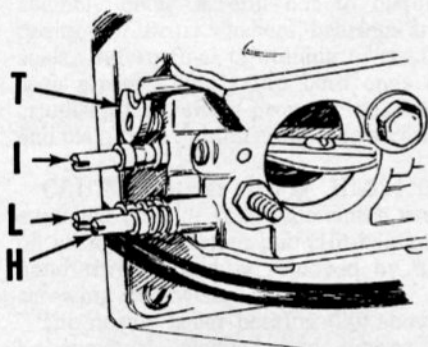

Fig. HL340—View of carburetor adjustment screws. Refer to text for adjustment.
adjustment of idle speed screw (I—Fig. HL340) is $\frac{1}{2}$ – $\frac{3}{4}$ turn clockwise after lobe on idle speed screw just contacts throttle stop lever (T). Initial adjustment of low speed mixture screw (L) is 1–1 $\frac{3}{4}$ turns open and high speed mixture screw (H) is 1–1 $\frac{1}{4}$ turns open. Install carburetor cover and start saw.